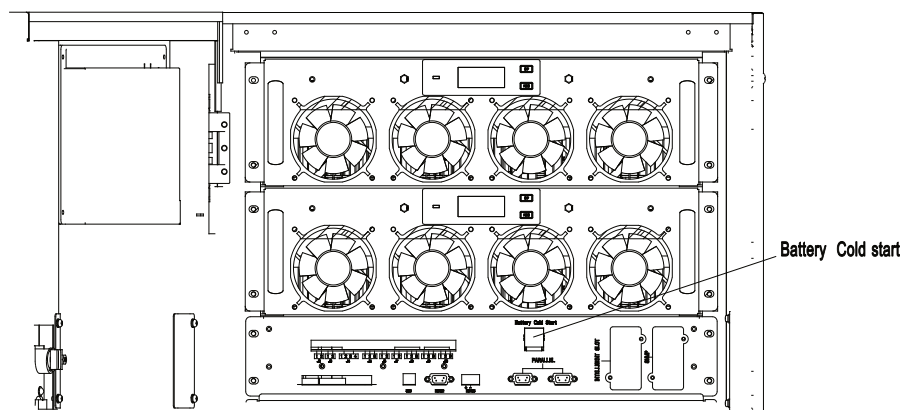

Figure 4-1 The position of the battery cold start button
- 2) Press the red button for the battery cold start (See Figure4-1). The system is then powered by the battery.